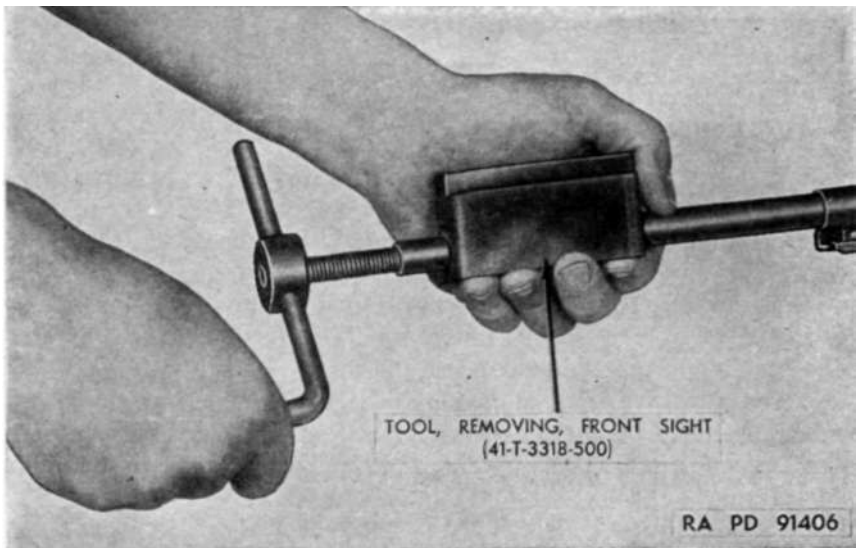

Figure 34. Removing front sight.
(1) Break sight pin loose, using a tapered punch, then drive pin out, using a $\frac{3}{32}$ -inch drift.
(2) Position front sight removing tool (41-T-3318-500) over front sight, hooking it on the rear of the sight. (See fig. 34.)
(3) Enter pilot of screw into end of barrel and remove front sight by turning handle of tool.